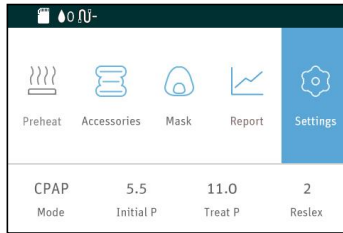

Fig. 16-1
(1) Insert the Cellular Module into the device, and connect the power supply. The device screen displays the Main Interface shown in Fig. 16-1.